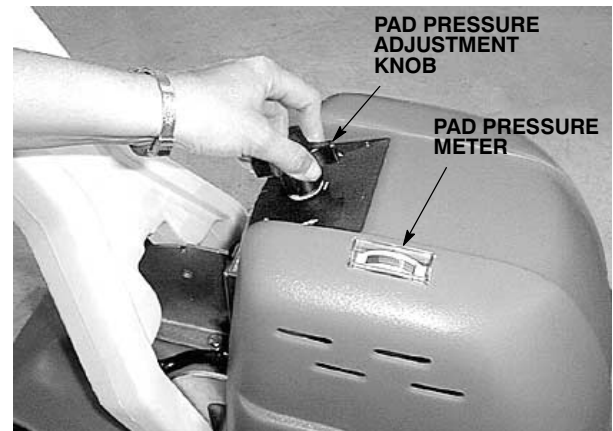

FIG. 7
3. Once you begin operating machine, view pad pressure meter and adjust pad pressure adjustment knob if necessary. Operate machine with meter needle in the green zone ONLY. Turn knob counterclockwise to increase pad pressure and clockwise to decrease (Figure 7).